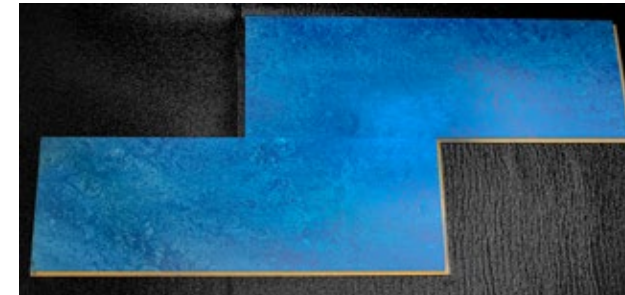

Figure 2
3. To ensure that all pieces are clicked together at exact 90° angles, install a temporary piece along the front wall (parallel with the material). Click the tongue of the first piece into the groove of the temporary piece, allowing the temporary piece to sit halfway on the first piece. See Figure 2. The temporary piece in the figure is the top piece. **IMPORTANT!!** The pieces must be perfectly aligned with one another. Any variation in alignment from piece to piece can create gaps between one row and the next.